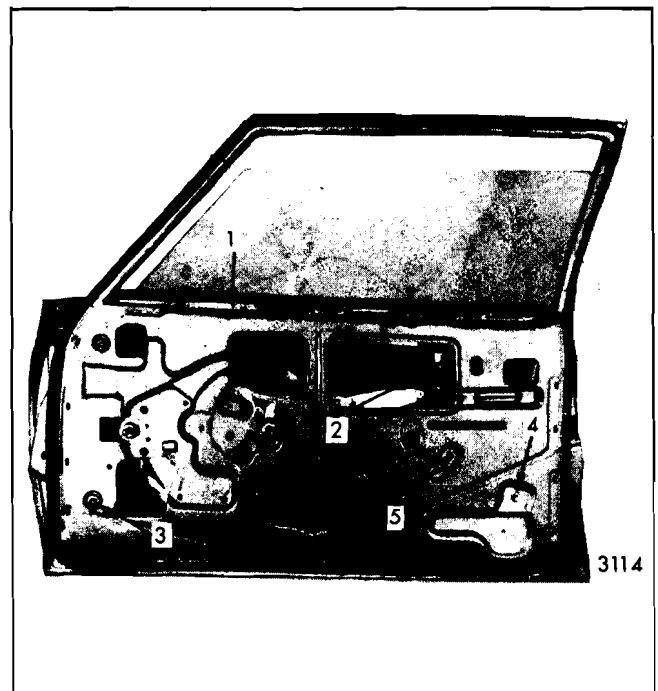

Fig. 6-85—Front Door Window Removal and Adjustment - "B-11" Styles
2. Loosen window anti-rattle strip ("1", Figure 6-85).
3. Partially lower front door window and remove window lower sash channel cam to glass attaching stud nuts ("2", Figure 6-85). Disengage lower sash channel cam from attaching studs by pressing cam inboard.
Adjustments have been provided to relieve a binding front door glass due to misaligned glass run channels ("3" and "4", Figure 6-85). In addition, the door window inner panel cam is adjustable which can correct a rotated (cocked) front door window ("5", Figure 6-85).